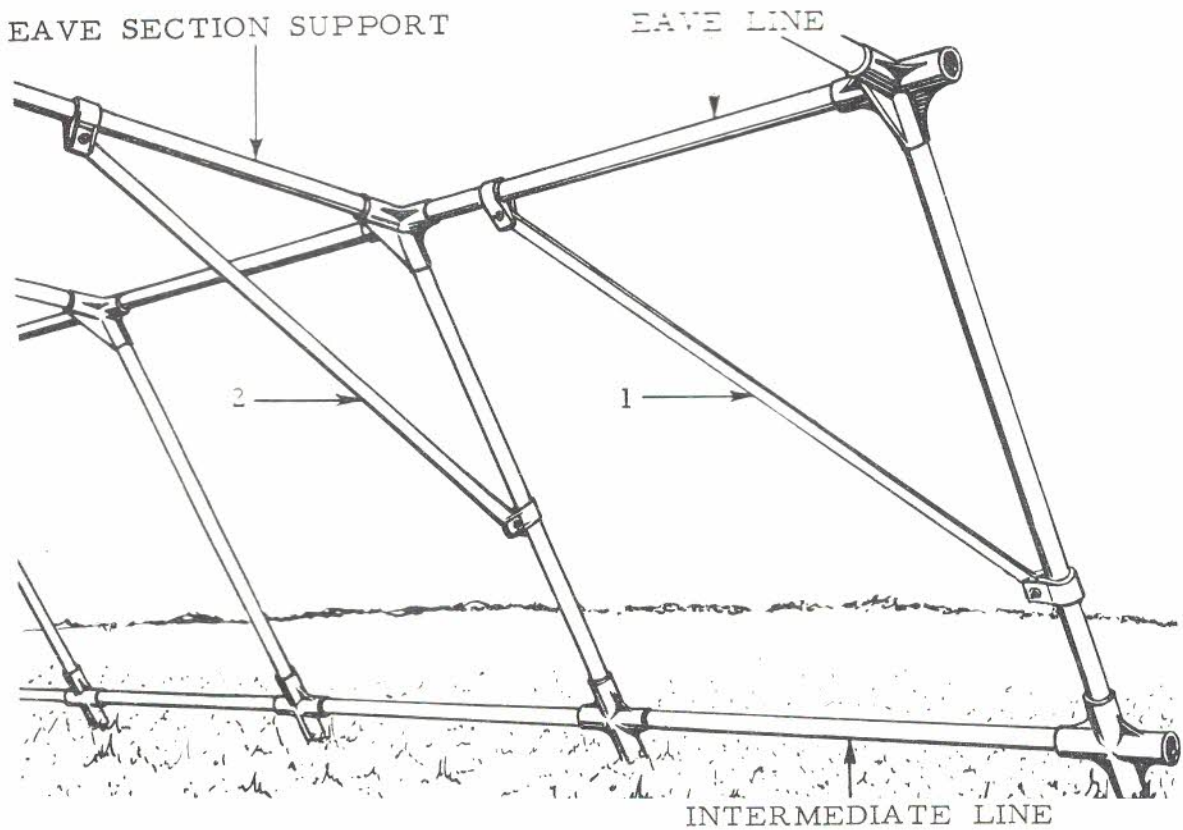

FIG 25 - FLAT SUPPORTING BRACES FITTED TO UPPER WALL AND ROOF SUPPORTS
40 At both corners of Side 2 and at 45 degrees from the eave line to the corner support, attach a flat supporting brace by means of clamps, as shown in Fig 25 (see Arrow 1). Ensure that EVERY bolt head faces outwards, and that all supports are fully inserted in the support sockets.
41. Attach flat braces as in Fig 25 Arrow 2) in each section not braced by tubular braces. Four flat braces are required.